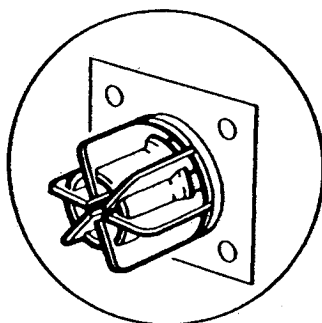

Fig. 53
11. Fit the trim over the flue terminal and mark through the four securing holes. Remove the trim, drill holes 63mm (2½ in) deep to accept suitable wall plugs. Fit the trim over the flue terminal and secure using suitable screws (Fig. 53).